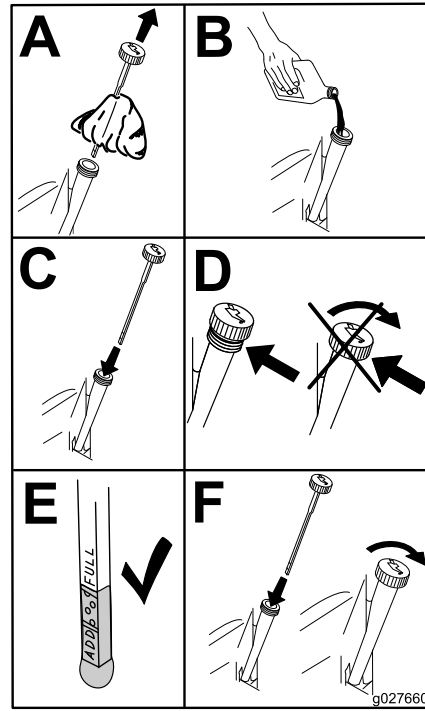

Figure 34
5. Slowly pour approximately 80% of the specified oil into the filler tube and slowly add the additional oil to bring it to the **Full** mark (Figure 34).